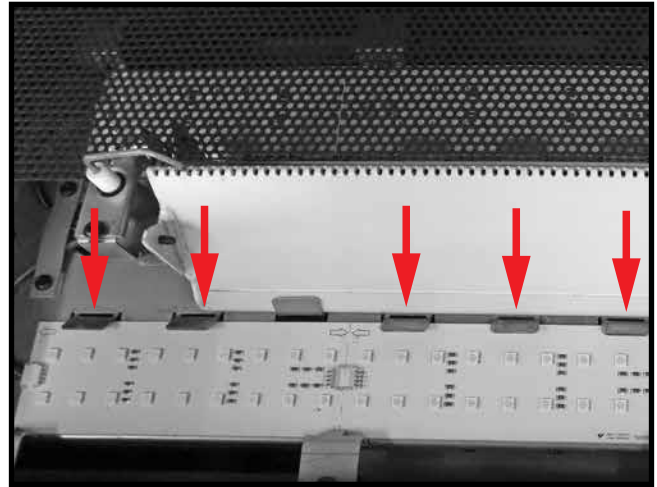

Figure 55: LED strip hold down tabs.
6. The LED sections and rows are held in place by hold down tabs (Figure 55). These tabs can be lifted up so that the LED section can be removed.